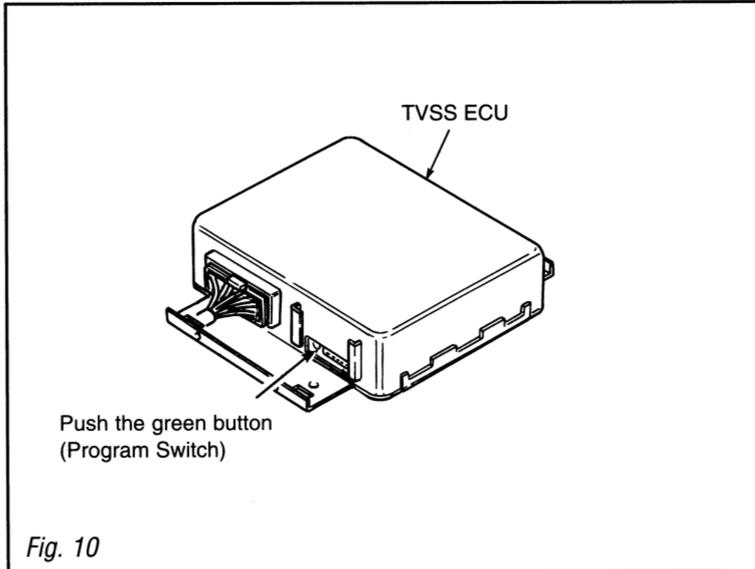

Fig. 10
- 4) Press the "Program Switch" of the TVSS ECU for more than 2 seconds. Then the status monitor LED will be turned on for 5 seconds (See figure 10).